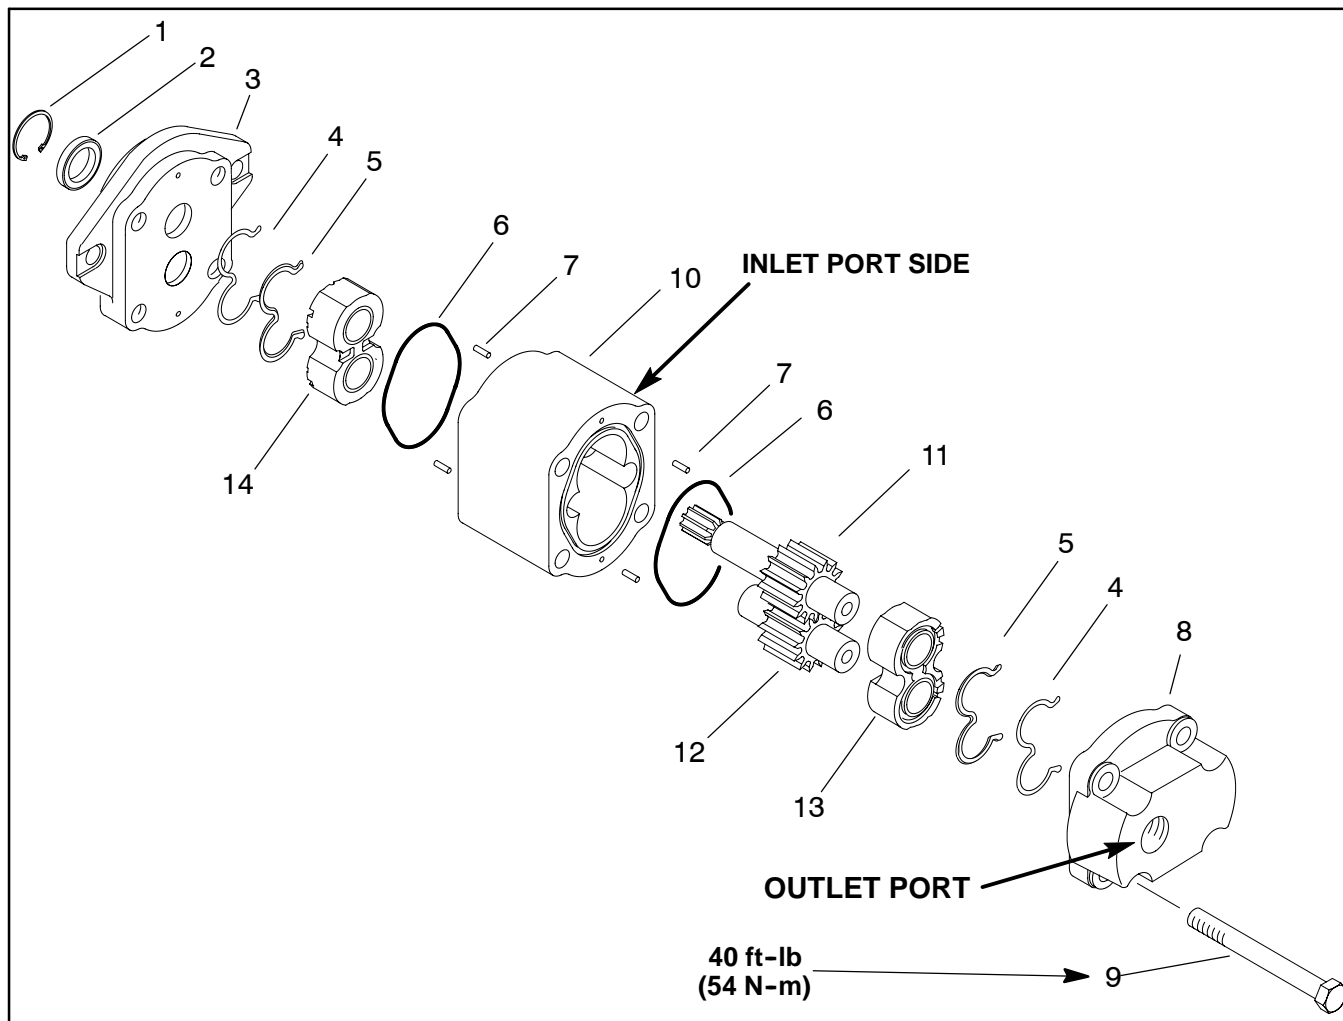

Figure 39
### Disassembly (Fig. 39)
1. Tape the shaft end of the drive gear (11) to prevent damaging the shaft seal when the shaft is removed or reinstalled.
2. Matchmark the inlet side of the gear housing (10) with the mounting flange (3) and the end cover (8) for proper orientation of these three parts during reassembly.
5. Remove the gear housing ensuring the rear bearing block (13), front bearing block (14), drive gear (11), and idler gear (12) remain together. Remove the remaining two dowel pins from the gear housing.
**Shaft Seal Replacement (Fig. 39)**
1. Place the mounting flange on a clean working surface with the shaft seal (2) up. Remove the retaining ring.
**E-seal and Backup Ring Replacement (Fig. 39)**
**O-ring Replacement (Fig. 39)**
**Reassembly (Fig. 39)**